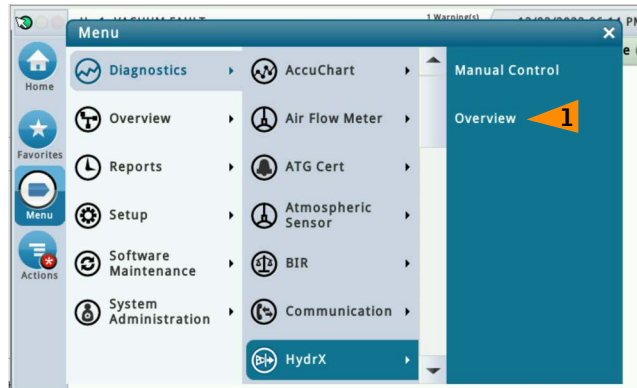
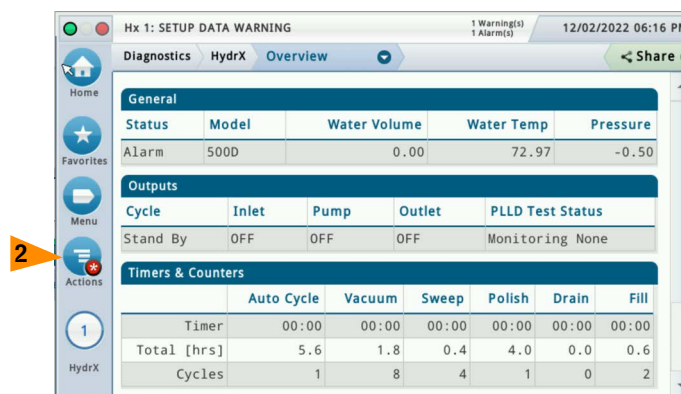

Figure 8. Accessing HydrX Diagnostic Overview Screen
Figure 9. HydrX Diagnostic Overview Screen
1. Touch **Menu>Diagnostics>HydrX>Overview** (Item 1, Figure 8) to open the HydrX Diagnostic Overview screen (see Figure 9).
2. Touch the **Actions** button (Item 2, Figure 9) to open the HydrX diagnostic service buttons menu. Note: Gray Action buttons are disabled.